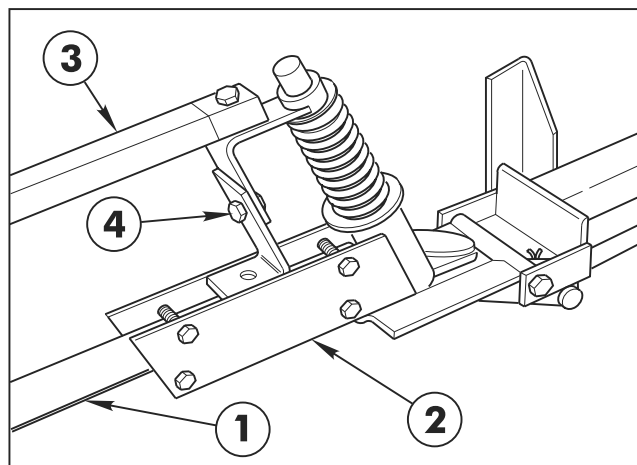

Figure 6
13. Insert the plugged end of an Extension Boom Pipe into the Pivot Assembly and secure with four (4) 1/4" x 1-1/4" cap screws and lock nuts. (See FIG. 6) Repeat on the opposite side to assemble the other Extension Boom.
14. Attach the LH Boom Support Assembly to the Pivot Assembly, using a 5/16" x 1-1/2" cap screw and lock nut. (See FIG. 6 & 7.)